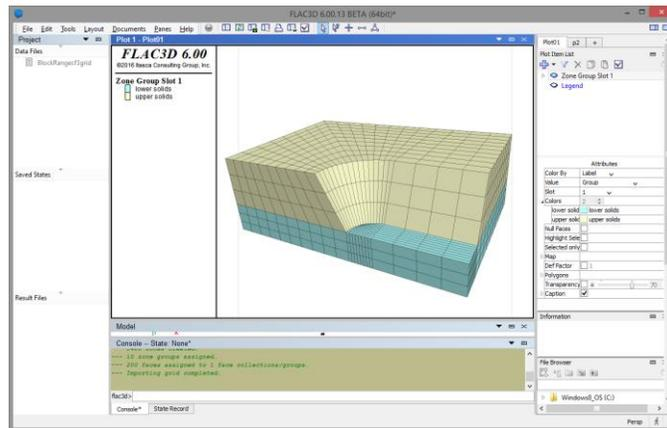

Figure 85: In *Rhino*, solids organized in layers are processed into **FLAC3D** groups.
3. If your **OutputFormat** parameter was **FLAC3D**, start **FLAC3D** and select the **File|Import|Grid** menu item in **FLAC3D**. Select **BlockRanger.f3grid** to **view** your model in **FLAC3D**. For **other** output **formats**, run your **application** and import the grid. Note that *Rhino* layers become groups (slot 1) in **FLAC3D** (Figure 85).